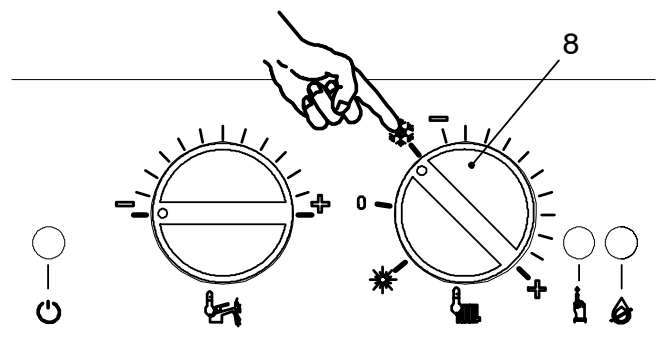

Fig. 7.5
- 2 Make sure that the function selector 8 is set to the position in Fig. 7.5 and that the timer selector switch and room thermostat, if fitted, is set to "demand heat".